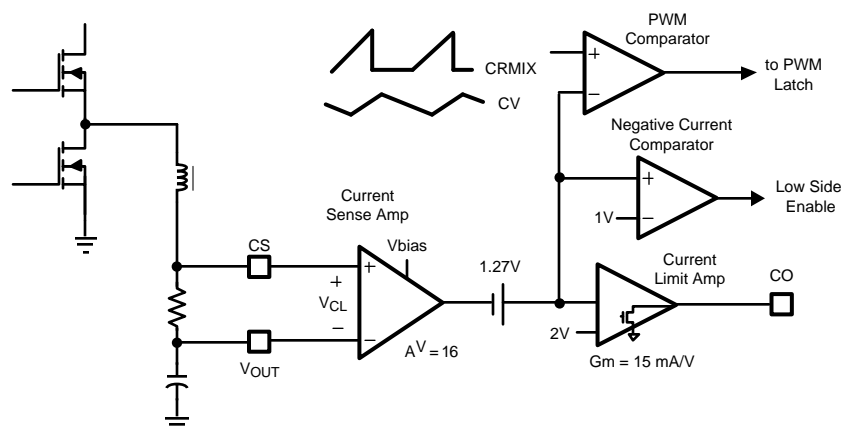

Figure 15. Current Sensing and Limiting
The LM25115 controller uniquely combines elements and benefits of current mode control in a voltage mode PWM controller. The current sense amplifier shown in Figure 15 monitors the inductor current as it flows through a sense resistor connected between CS and VOUT. The voltage gain of the sense amplifier is nominally equal to 16. The current sense output signal is shifted by 1.27V to produce the internal CV reference signal. The CV signal is applied to the negative input of the PWM comparator and compared to CRMIX as illustrated in Figure 13. Thus the PWM threshold of the voltage mode controller (CV) varies with the instantaneous inductor current. Insure that the Vbias voltage is at least 3V above the regulated output voltage (VOUT).
Current limiting is implemented through the current sense amplifier as illustrated in Figure 15. The current sense amplifier monitors the inductor current that flows through a sense resistor connected between CS and VOUT. The voltage gain of the current sense amplifier is nominally equal to 16. The output of current sense amplifier is level shifted by 1.27V to produce the internal CV reference signal. The CV signal drives a current limit amplifier with nominal transconductance of 16mA/V. The current limit amplifier has an open drain (sink only) output stage and its output pin, CO is typically connected to the COMP pin. During normal operation, the voltage error amplifier controls the COMP pin voltage which adjusts the PWM duty cycle by varying the internal CRMIX level (Figure 13). However, when the current sense input voltage  $V_{CL}$  exceeds 45mV, the current limit amplifier pulls down on COMP through the CO pin. Pulling COMP low reduces the CRMIX signal below the CV signal level. When CRMIX does not exceed the CV signal, the PWM comparator inhibits output pulses until the CRMIX signal increases to a normal operating level.
When inductor current flows from the regulator output through the low side MOSFET, the input to the current sense comparator becomes negative. The intent of the negative current comparator is to protect the low-side MOSFET from excessive currents. Negative current can lead to large negative voltage spikes on the output at turn off which can damage circuitry powered by the output. The negative current comparator threshold is sufficiently negative to allow inductor current to reverse at no load or light load conditions. It is not intended to support discontinuous conduction mode with diode emulation by the low-side MOSFET. The negative current comparator illustrated in Figure 15 monitors the CV signal and compares this signal to a fixed 1V threshold. This corresponds to a negative  $V_{CL}$  voltage between CS and VOUT of -17mV. The negative current limit comparator turns off the low-side MOSFET for the remainder of the cycle when the  $V_{CL}$  input falls below this threshold.